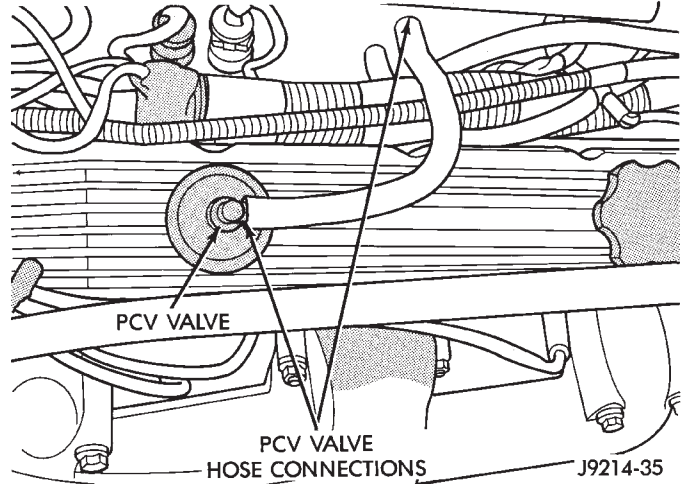

Fig. 25 PCV Valve Hose Connections—5.2L Engines—Typical
(8) Verify positive crankcase ventilation (PCV) valve operation. Refer to Group 25, Emission Control System for additional information. Verify PCV valve hose is firmly connected to PCV valve and manifold (Fig. 25).
(9) Inspect fuel tube quick-connect fitting-to-fuel rail connections.
(10) Verify that hose connections to all ports of vacuum fittings on intake manifold are tight and not leaking.
(11) Inspect accelerator cable, transmission throttle cable (if equipped) and cruise control cable connections (if equipped). Check their connections to the throttle arm of throttle body for any binding or restrictions.